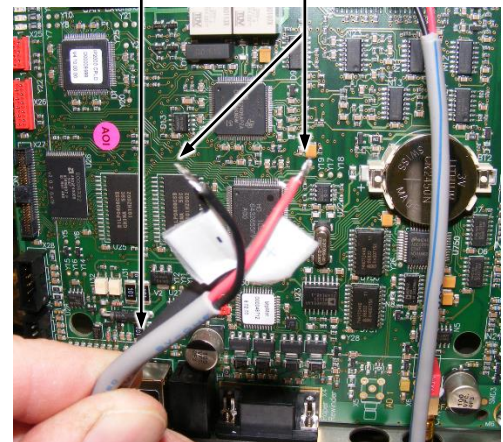

Figure 8
4. Route the trigger cable into the back of the terminator, and connect the trigger cable to the air feed cable. See Figure 8.
5. Remove the air feed cable from the back of the terminator. See Figure 8.
6. Cut and splice *both* air feed cable and the trigger cable as shown in Figure 8. Connect both cables to the connector block on the terminator. **Make sure to maintain polarity.**